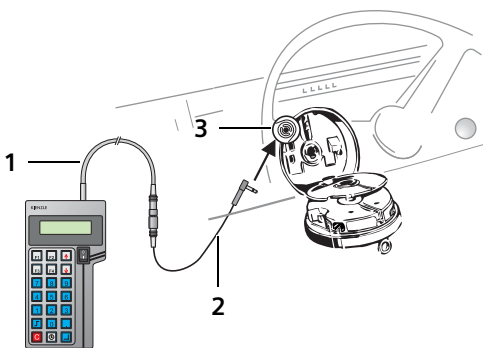

Fig. 7: Connecting the HTC+ to tachographs with diagnosis socket
1. Connect the HTC+ (1) to the diagnosis socket of the tachograph (3) via the ribbon cable (2) as illustrated in fig. 7.